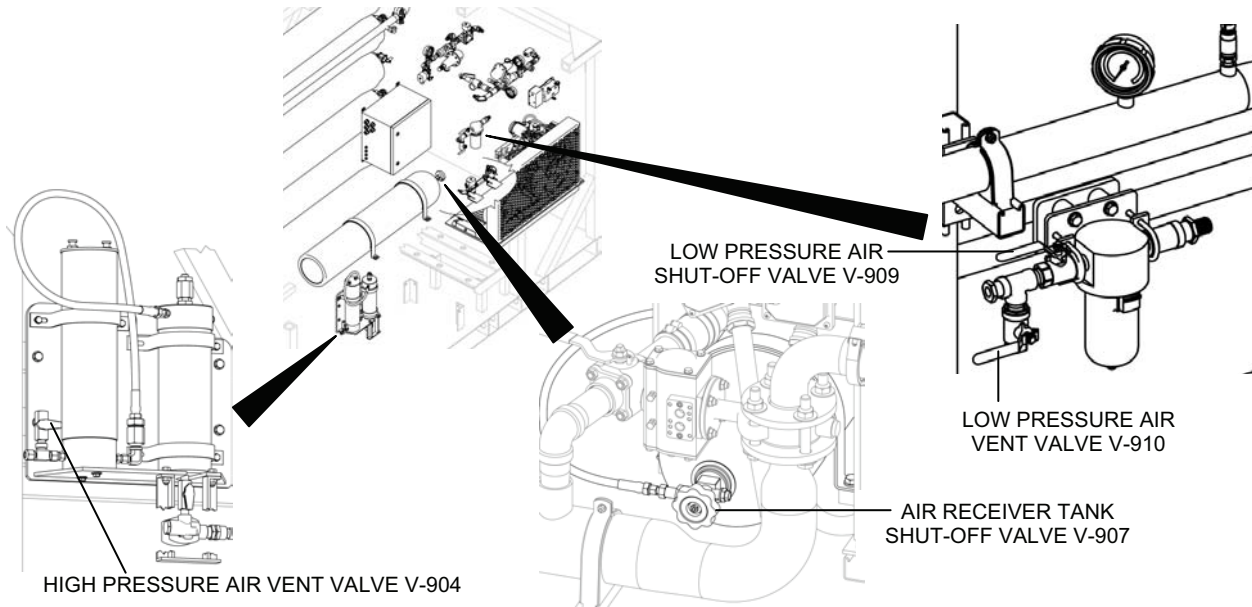

Figure 10. Low and High Pressure Air System Bleed Down.
2. Bleed the entire air system as follows (see Figure 10 for valve location):